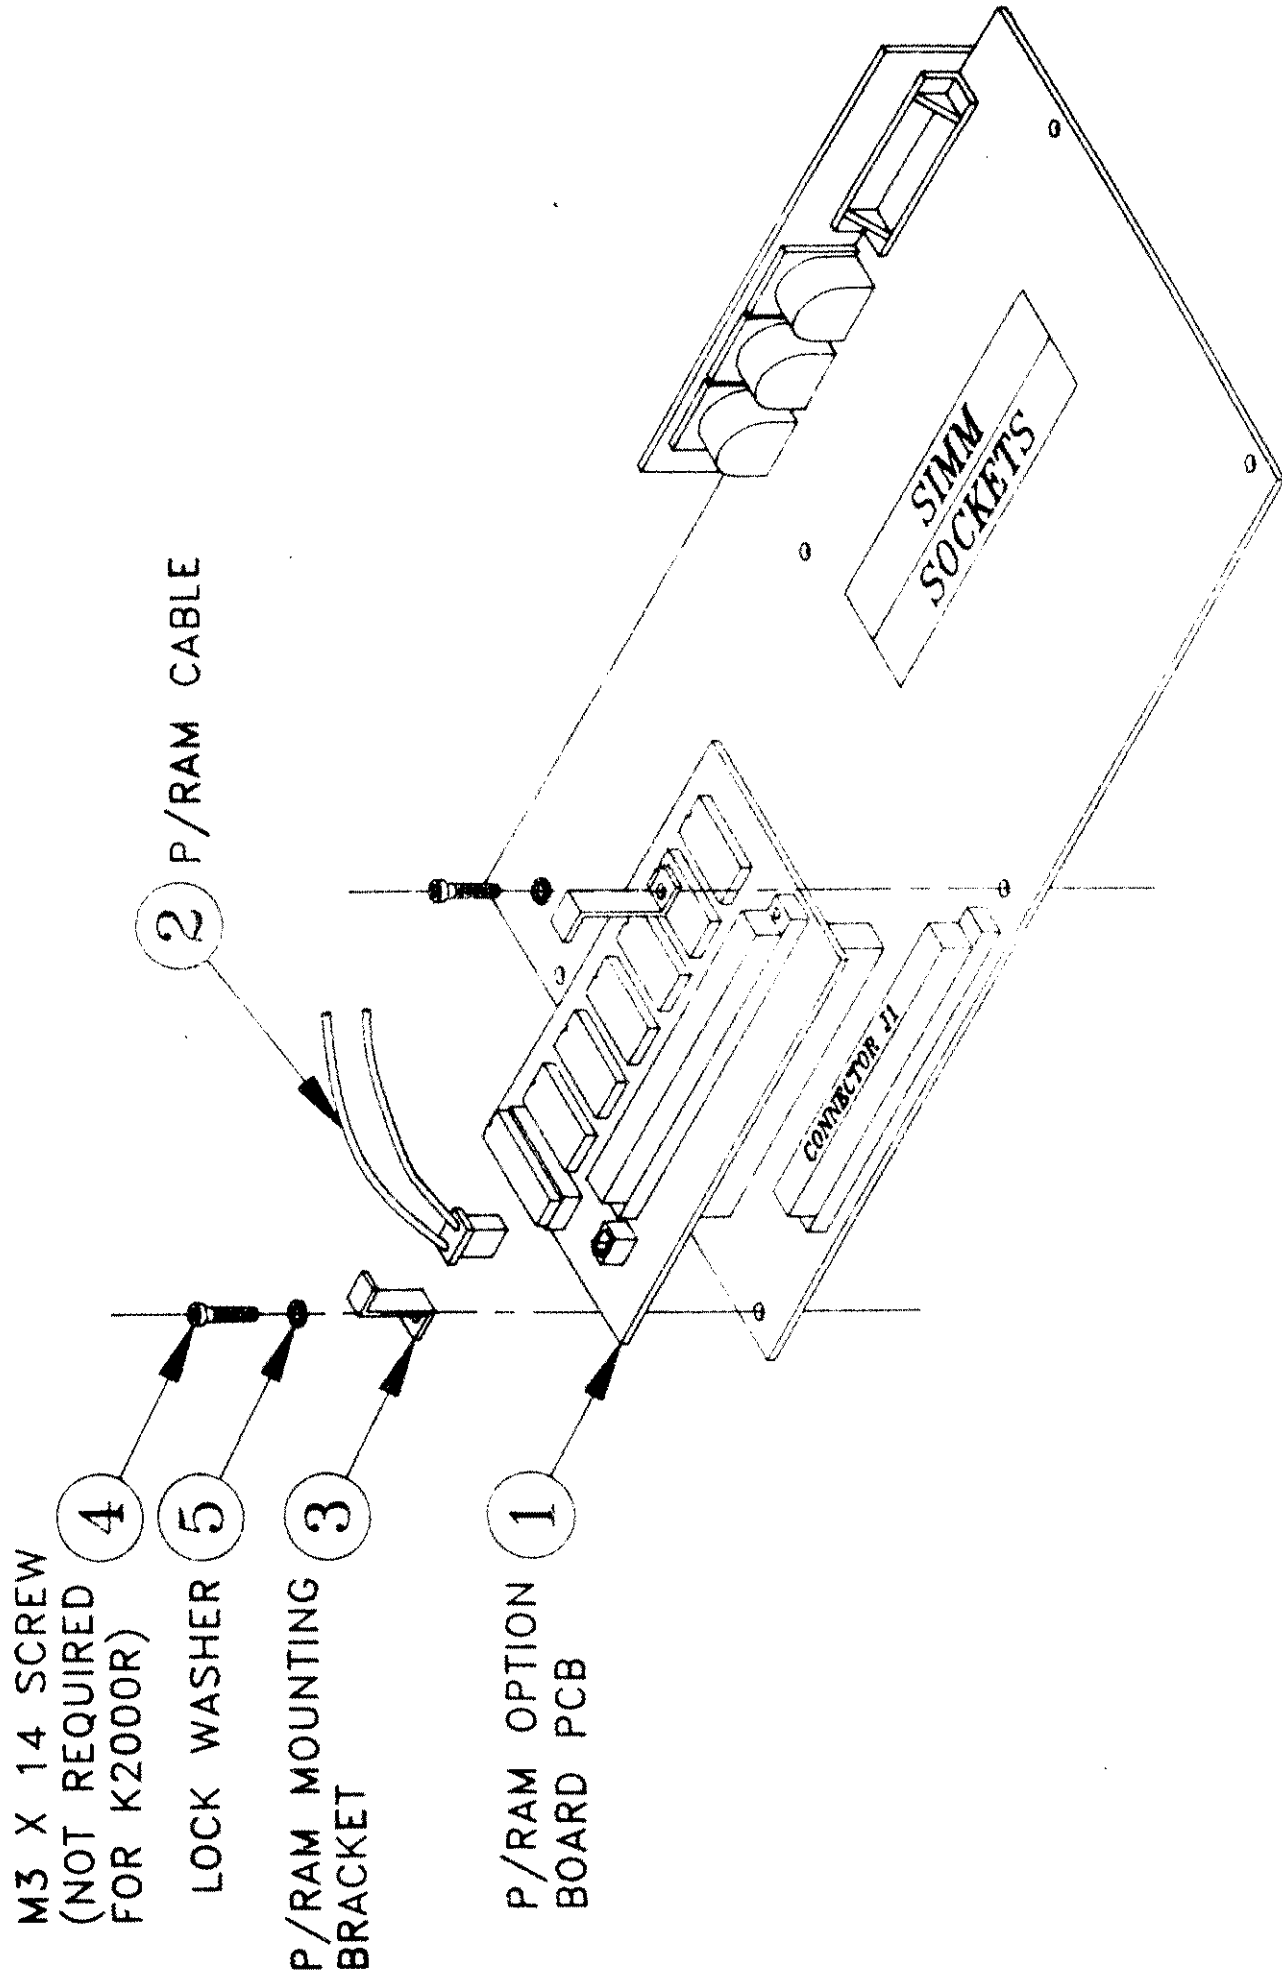

FIGURE 3
- 8 Remove the two screws to the left and right of connector J1 (see Figure 3). You can discard these screws, as they will not be reused.
- 9 Take the P/RAM Option board (Item 1) and with the components facing up, press its connector into connector J1 on the Engine board. See Figure 3. The P/RAM Option board connector is keyed to prevent improper connections.
- 13 Take the P/RAM Option board cable (Item 2) and plug it onto the keyed connector on the P/RAM Option board. See Figure 3.